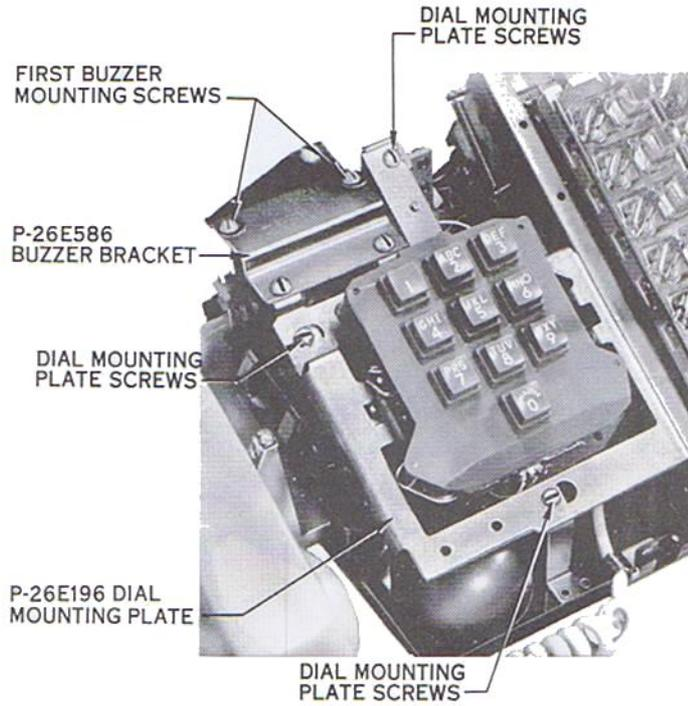

Fig. 11 - 1630-Type Telephone Set
7.01 Sets which are currently being manufactured provide for mounting two KS-8100 type buzzers. The first buzzer can be mounted on the buzzer support bracket (Fig. 11), which is furnished equipped with the necessary mounting
- (1) Remove bezel and housing assemblies.
- (2) Remove buzzer mounting bracket.
- (3) Loosen dial mounting plate screws (Fig. 11).
- (4) Move mounting plate to left and lift off.
- (5) Disconnect dial leads.